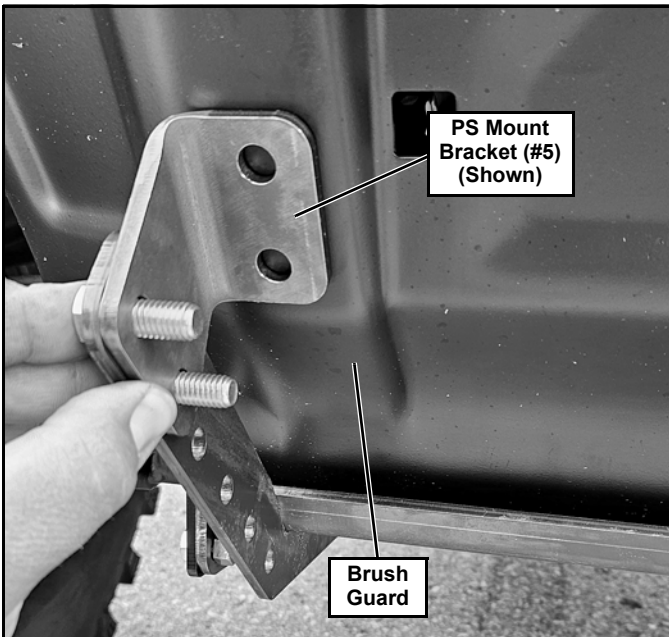

Figure 6
7. Tighten all the hardware and parts that have been installed at this point. (See Figure 6).
8. Attach the Driver and Passenger Side Mount Brackets (#4 & 5) as shown. Hold tight against the brush guard and use the holes in the parts as a template to center punch and drill to 7/16". (See Figure 6).